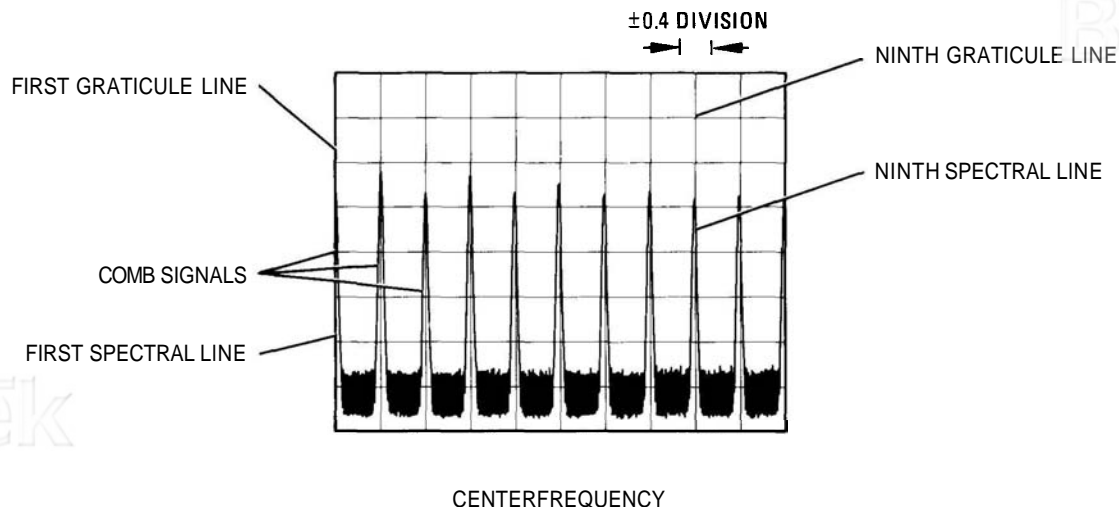

FIGURE 4-3. FREQUENCY SPAN ACCURACY MEASUREMENT FOR NINTH SPECTRAL LINE
6. Set comb generator **COMB FREQUENCY**—MHz for 10-MHz comb. Set spectrum analyzer **FREQ SPAN/DIV** to 20 MHz. Adjust **TUNING** control to position one spectral line on the first graticule line. Measure the error between 17th spectral line and ninth graticule line as shown in Figure 4-3. Error should be no greater than ± 0.4 division.